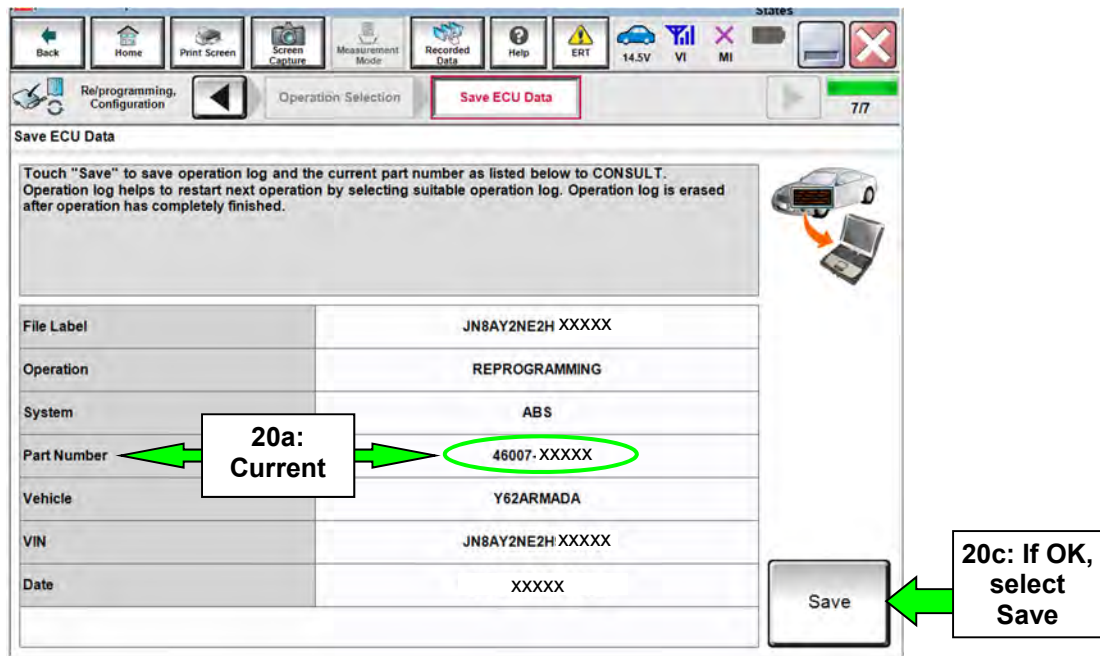

Figure 9
20. When you get to the screen shown in Figure 9, confirm reprogramming applies as follows: